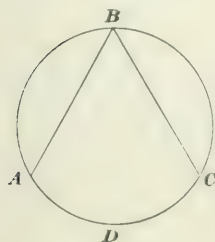

FIG. 43.
72. An **inscribed angle** is one whose vertex lies on the circumference of a circle and whose sides are chords. It is measured by one-half the intercepted arc. Thus, in Fig. 43, ABC is an inscribed angle, and it is measured by one half the arc ADC .
EXAMPLE.—If in Fig. 43, the arc $ADC = \frac{2}{5}$ of the circumference, what is the measurement of the inscribed angle ABC ?